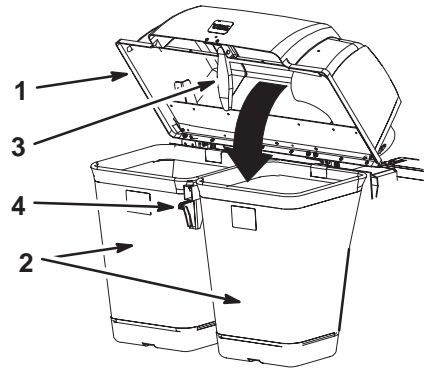

Figure 20
5. Position the bagger latch under the latch hook (Figures 20 and 21).
8. Lower the bagger hood over the bags (Fig. 20).